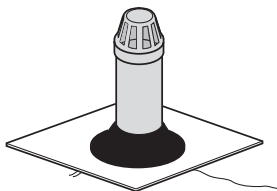

Fig.21b Steps 2/3
**Step 3** – Slide **149 Weathering Slate** over stack. Push slate (and its rubber cone) down onto first layer of felt (Fig.21b)